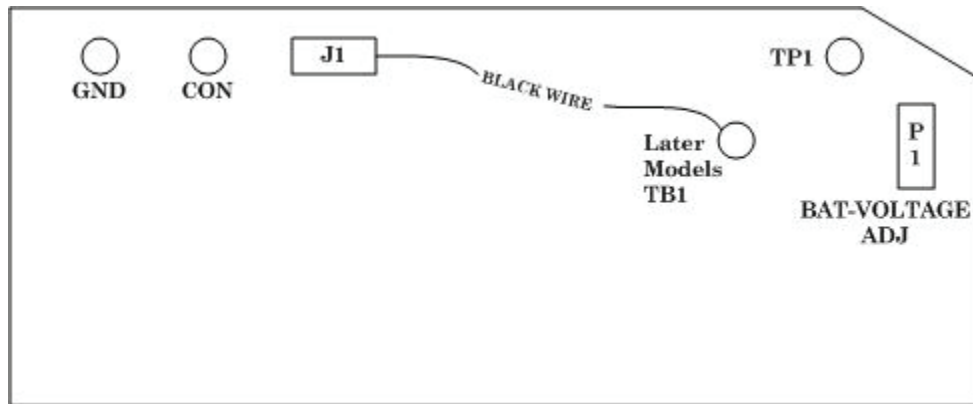
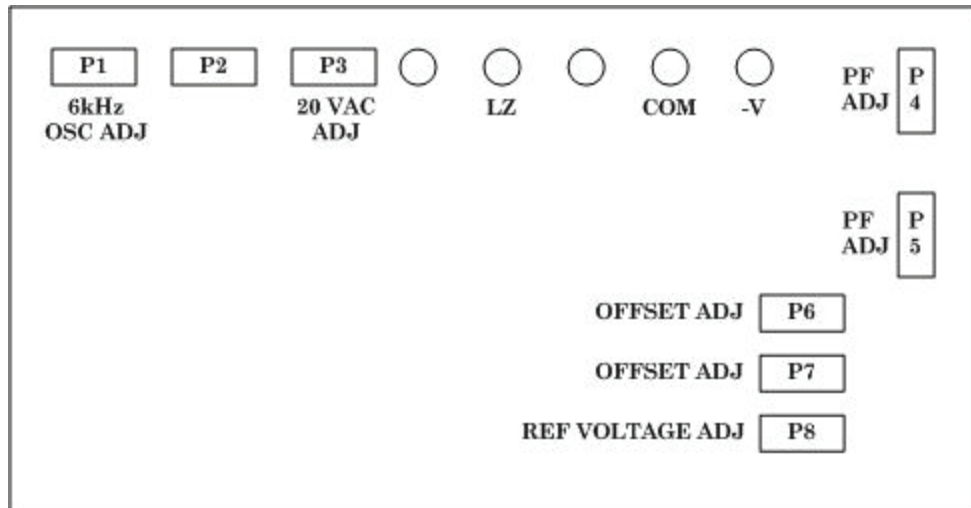

Figure 1. PCB2 Board adjustments.
Figure 2. PCB1 board adjustments.
(1) Adjust DC power supply for a 6.8 Vdc indication on multimeter.
(2) Adjust P1 and PCB2 board (fig. 1) until the LO-BAT legend just starts to appear on TI digital indicator.
- (1) Position TI controls as listed in (a) through (d) below.
- (2) Using an X10 attenuator, connect frequency counter to TI LZ (+) and COM (-) on PCB1 board (fig. 2).
- (3) Set DC power supply and TI power to **ON**.
- (4) Depress and hold TI **PRESS TO READ CAP(pF)** pushbutton. Frequency counter will indicate  $6 \text{ kHz} \pm 50\text{Hz}$ . If not, perform **b** (1) below. Release TI **PRESS TO READ CAP(pF)** pushbutton.
- (5) Set TI **ON/OFF** switch to **OFF**.
- (6) Set DC power supply to **OFF**.
- (7) Disconnect frequency counter from set-up.
- (8) Connect multimeter to TI L-Z (+) and COM (-) on PCB1 board (fig. 2).
- (9) Set DC power supply to **ON** and TI **ON/OFF** switch to **ON**.
- (10) Depress and hold TI **PRESS TO READ CAP(pF)** pushbutton. Multimeter will indicate  $6 \text{ kHz} \pm 50\text{Hz}$ . If not, perform **b** (2) below. Release TI **PRESS TO READ CAP(pF)** pushbutton.
- (11) Set test equipment power to off. Disconnect multimeter from set-up.
- (1) Depress and hold TI **PRESS TO READ CAP(pF)** pushbutton and adjust P1 on PCB1 board, (fig. 2), for 6 kHz on frequency counter.
(2) Depress and hold TI **PRESS TO READ CAP(pF)** pushbutton and adjust P3 on PCB1 board, (fig. 2), for 20 Vac on multimeter.
- (1) Connect multimeter positive input to junction of R17, R18 and C20 and negative input to COM on PCB1 board (fig. 2).
- (2) Set TI and DC power supply to **ON**. Adjust P4 on PCB1 board (fig. 2) for 0 volts  $\pm$  0.0001V on multimeter.
- (3) Repeat technique of **b** (1) above with multimeter positive input connected to junction of R19 and C21 and negative input connected to COM on PCB1 board (fig. 2).
- (4) Repeat technique of **b** (2) above using adjustment P5 on PCB1 board (fig. 2) for 0 volts  $\pm$  0.0001V on multimeter.
- (1) Connect multimeter positive input to TP1 and negative input to COM on PCB2 board as shown in fig. 1. (Substitute TB1 for TP1 on some later models).
- (2) Set DC power supply to **ON**.
- (3) Set TI **ON/OFF** power switch to **ON**.
- (4) Multimeter will indicate 1.0 Vdc  $\pm$  0.002 V. If not, perform **b** below.
- (5) Set test equipment power to off. Disconnect multimeter from TI.
**b. Adjustments.** Adjust P8 on PCB1 board (fig. 2) for 1.0 Vdc on multimeter.
- (1) Depress and hold **PRESS TO READ CAP(pF)** pushbutton and adjust P6 on PCB1 board (fig. 2) for 100pF on TI digital indicator.
- (2) Depress and hold **PRESS TO READ CAP(pF)** pushbutton and adjust P7 on PCB1 board (fig. 2) for 100pF on TI digital indicator.